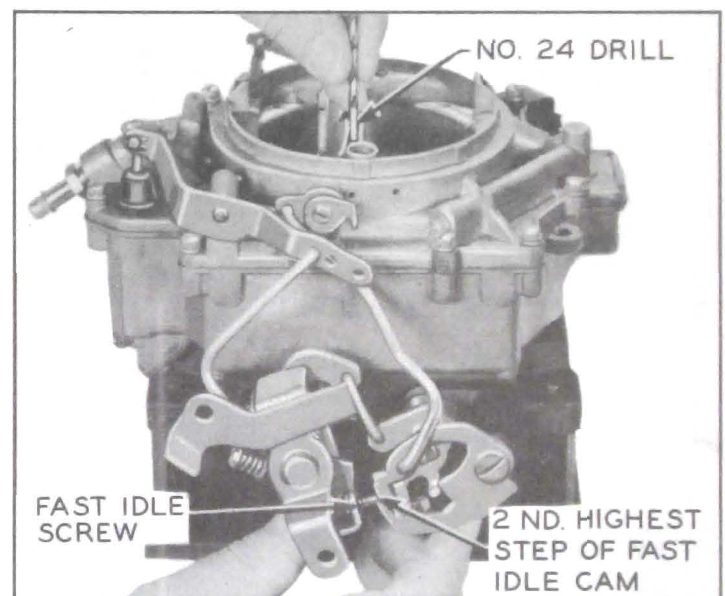

Figure 3-82—Checking Fast Idle Cam Adjustment
1. Close throttle so that fast idle screw contacts second highest step of fast idle cam with side of screw against rise to high step of cam, then check clearance between choke valve and air horn dividing wall using a No. 24 drill (.152"). See figure 3-82.